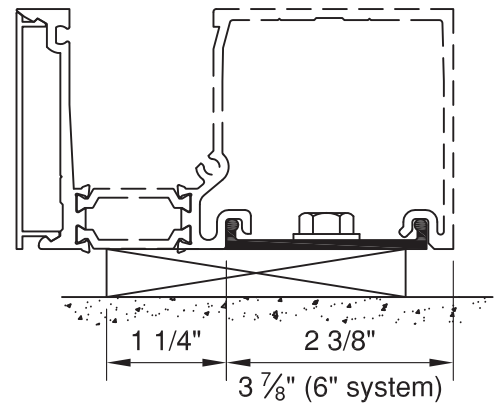

Figure 11
- 3.1 Shim continuous sill anchor off floor. Anchor must be level. **SEE FIGURE 11** for shim placement. Ends of sill anchor should be equal distance from wall on either side of opening. Refer to approved shop drawings for anchor size and placement. NOTE: Front of sill anchor is $2\frac{3}{8}$ " behind rear edge of wall at $4\frac{1}{2}$ " system; $3\frac{7}{8}$ " at 6" system.